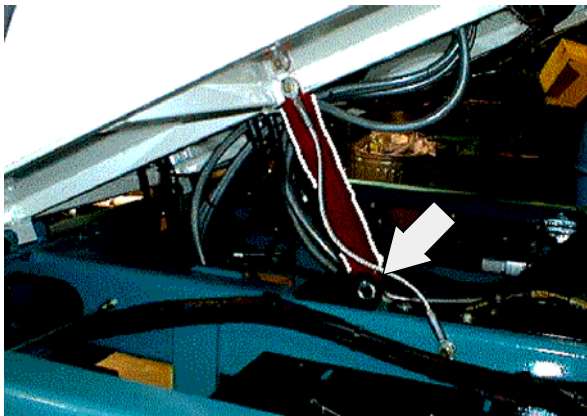

FIG. 4
3. Pull the pin from the cab prop arm, let arm drop, and install the pin into the lower hole on the arm and frame bracket. Refer to Fig. 4.